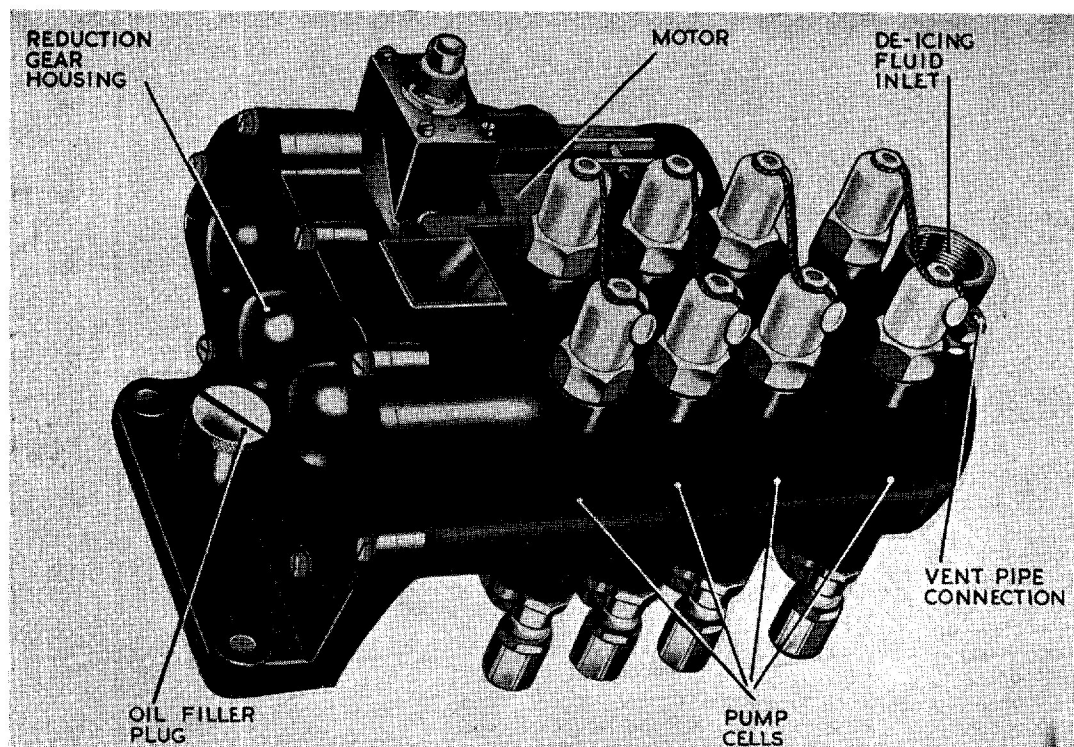

Fig. 1. Pump, de-icing, TKS Type A
1. The T.K.S. de-icing pump Type A (fig. 1) is a cellular pump unit, each cell housing two complete pump units. The pump is driven through gearing by a 28V compound wound, d.c. motor. The T.K.S.